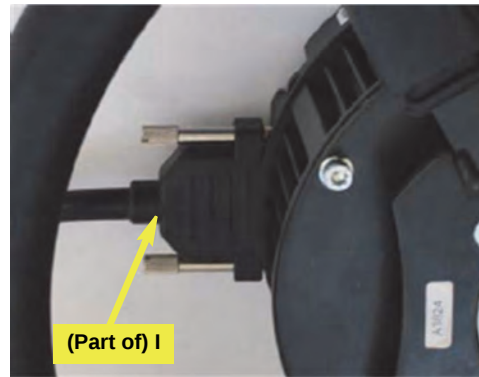

Figure 8b: Junction box comms cable connected to steering wheel assembly
- c. Clip the junction box **L** into place on its bracket **M** (neither shown) then connect **L**'s 15-pin connector cable to the communications port on the steering wheel assembly (Figure 8b). Use clip **O** suitably (not shown).